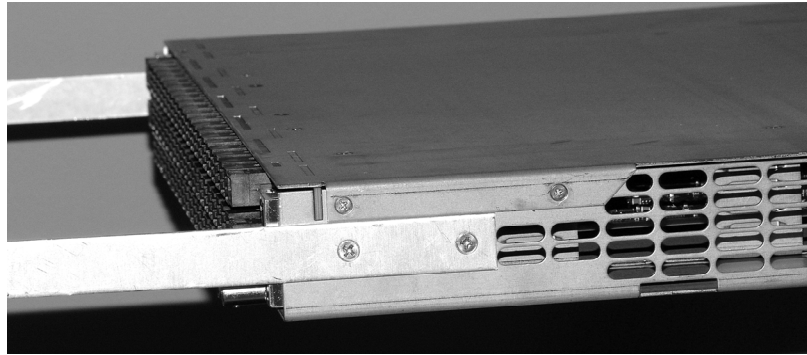

Figure 3-3 Rear Rack Rails - Installed
4. Figure 3-3 shows the rear of the chassis with both rack rails installed.